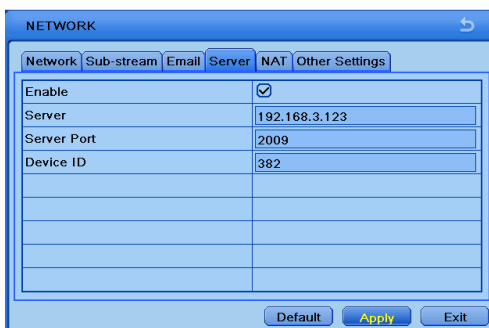

Fig 4-27 Network Configuration-Server
- ① In the server interface, select "Enable" as shown in the Fig 4-27.